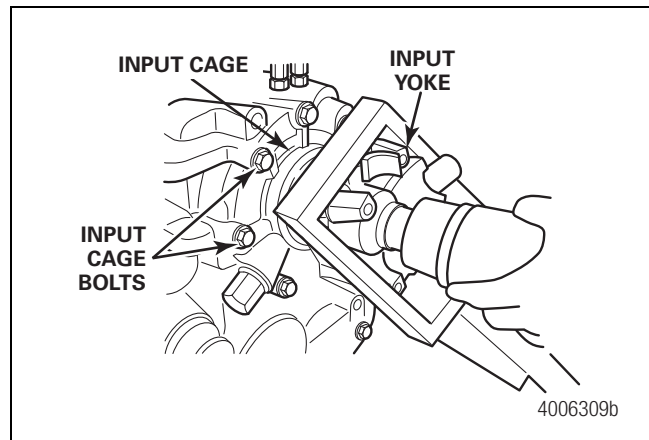

Figure 4.4
- Use a yoke holder to secure the yokes from turning. Remove the yoke locknuts and washers from the front and rear output shafts. Figure 4.4.
- Use a yoke holder to secure the input yoke from turning. Loosen but do not remove the front input yoke, locknut and washer from the front input shaft. The yoke is used to lift the input shaft assembly from the transfer case. Figure 4.4.